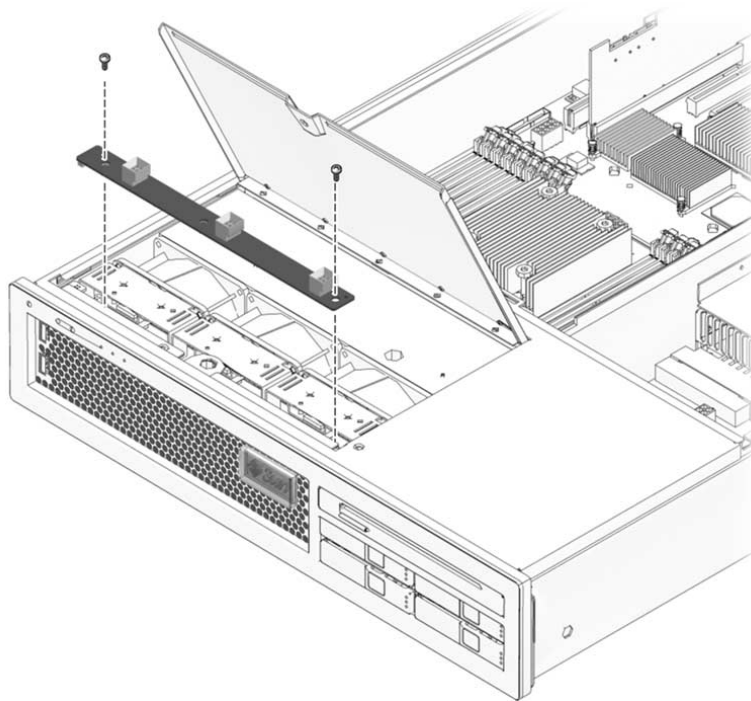

FIGURE 5-22 Removing the Fan Power Board
3. Remove the screw that secures the fan power board to the chassis (FIGURE 5-22).